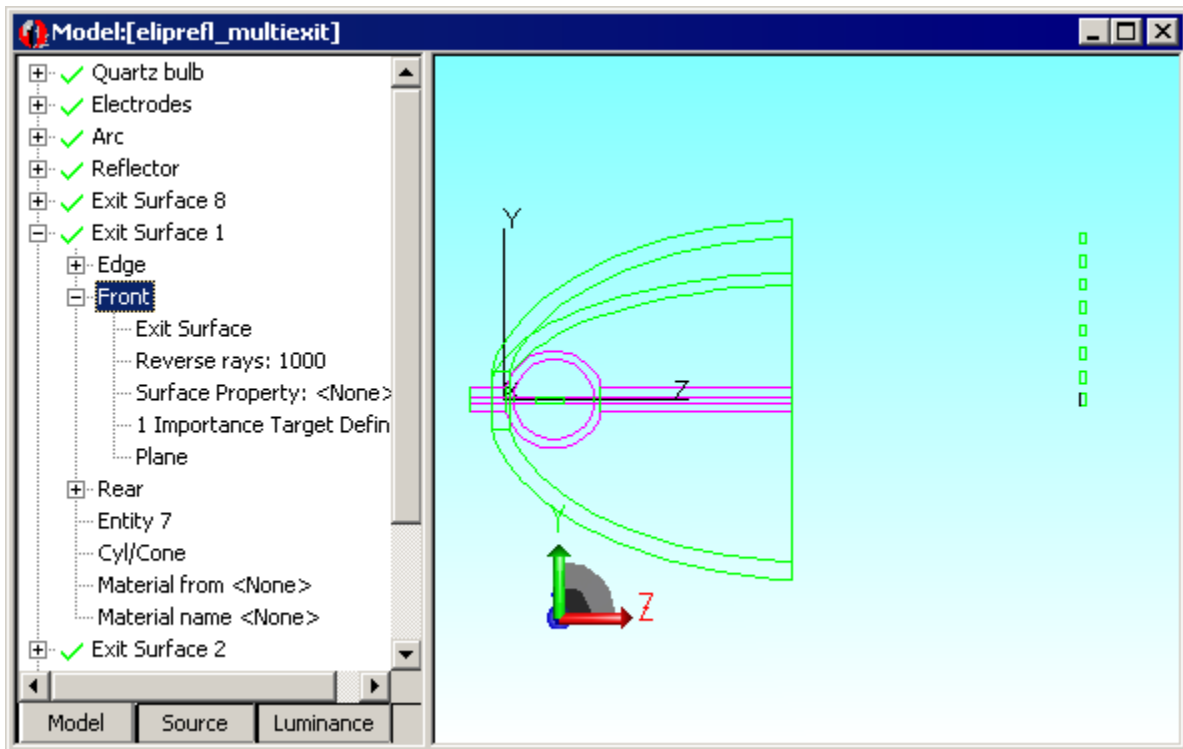

FIGURE 9.68 - Completed model with multiple exit surfaces.
3. Selecting the Front surface and making it an Exit Surface as in Figure 9.68.
Open the System Tree and rename the objects so that they are named Exit Surface 1 through Exit Surface 8. Label the one at $y = 0$ as Exit Surface 1, the one at $y = 40$ as Exit Surface 2, etc. The completed model is shown in Figure 9.68. Select **F I I e | Save** to save the model.